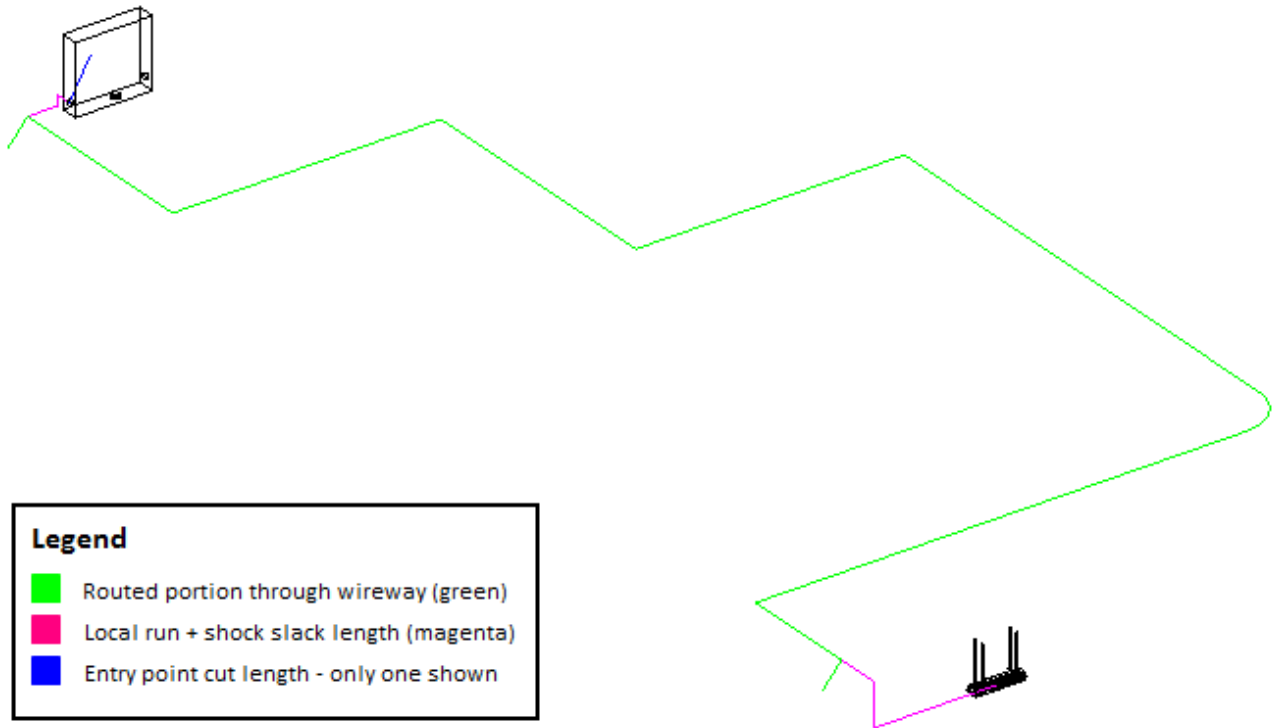

Figure 43: Anatomy of a cable
- A local run that goes from the first equipment part to the cable support where the cable enters the wireway. (The blue and magenta portion of the top of Figure 43 below.)
- The path from the cable support where the first local run enters the wireway through the wireway to the cable support at other end where the second local run enters the wireway (the green portion of Figure 43). The support where the second local run enters the wireway is sometimes referred to as the exit support.
- A local run that goes from the exit cable support to the second equipment part. (The magenta portion of Figure 43 – the blue part isn't visible in that part).
Of these, only the second – the portion routed through the wireway – is currently represented by the cable entity in cable drawings. In Figure 43 below, this corresponds to the green portion of the cable. The other parts are added here to illustrate the local run and cut length concepts but they exist only as attributes on the local run and equipment stock.
Note: In Figure 43 you may notice two “tails” at each end of the routed portion (green) of the cable. The cable is routed along the centerline of the space allocations it travels through. At each end the cable stops at the point along the centerline where the entry cable support’s CG projects onto the centerline. The point at each end where the cable stops is marked by these tails.